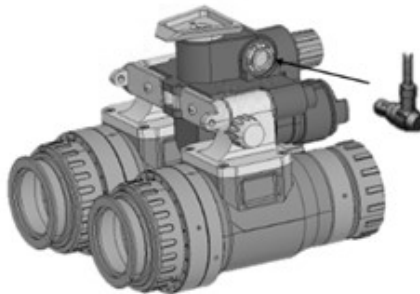

FIGURE 2.15 CONNECTING THE CABLE TO THE GOGGLES
(2) Align the other red dot on the cable connector with the red dot on the socket, as shown in Figure 2.15, then insert the connector into the socket until it is locked.